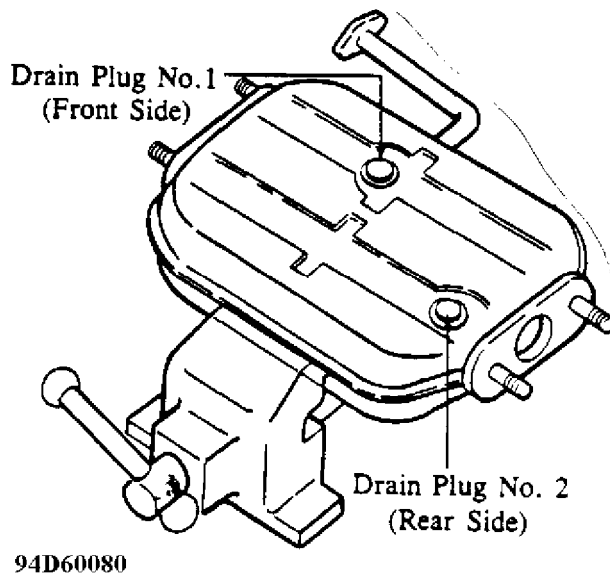
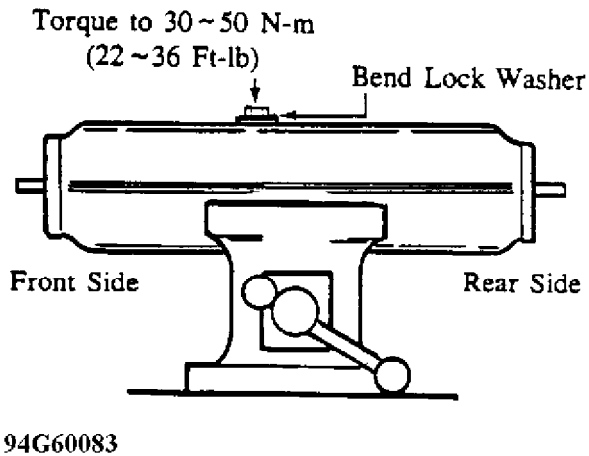

Fig. 14: Location of Drain Plugs No. 1 and 2
Fig. 17: Installing New Lock Washer on Converter
1. Remove the drain plug No. 1 and No. 2 of the empty catalytic converter for exchange operation. See Fig. 14.
8. Install a new lock washer and tighten the drain plug No. 1 to the specified torque. Torque to 30-50 N-m. Bend the lock washer to prevent the plug from loosening. See Fig. 17.
8. Hold the removed converter level and secure it in a vise as shown in Fig. 17. Remove the drain plug No. 2 (rear) and loosen the drain plug No. 1 (front) as shown in Fig. 14.